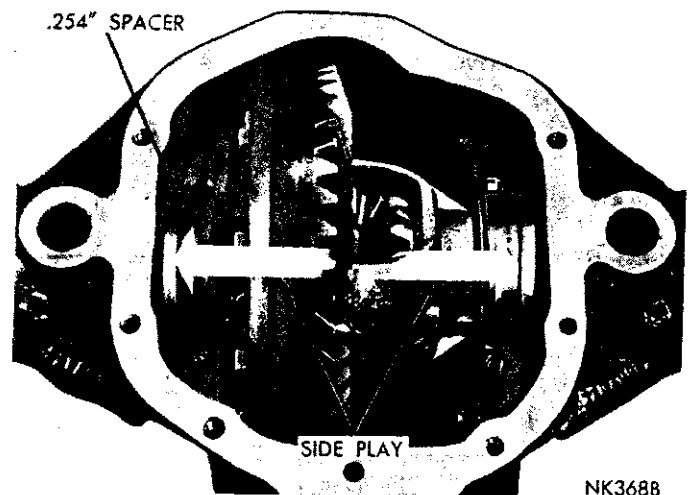
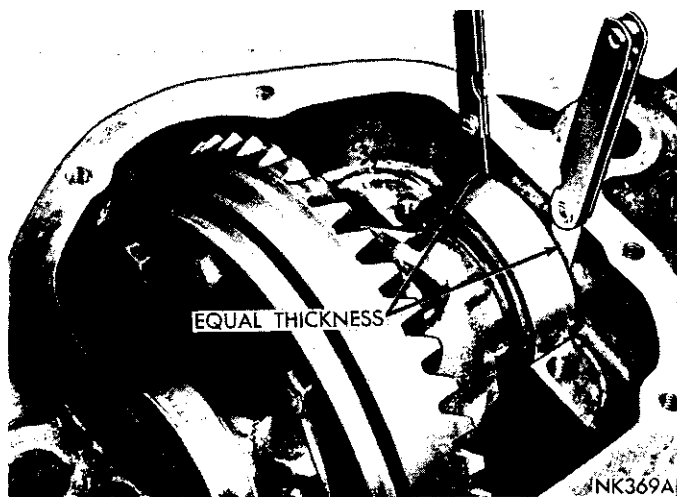
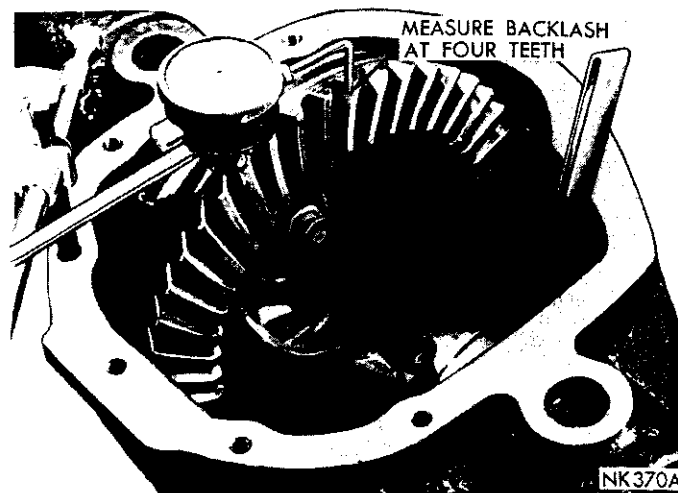

Fig. 22—Temporarily Install Thinnest Spacer
Fig. 23—Feeler Gauges Measuring Thickness
Fig. 24—Determining Minimum Backlash
(1) With drive pinion and bearings installed and bearing preload set, install differential case and ring gear assembly, and cups. Insert a .254 inch preload adjusting spacer on ring gear side (Fig. 22) of axle housing. Do not install bearing caps.
(2) Install a preload spacer on right side of housing that will fit snugly but still leave a slight amount of end play.
(3) To measure, move differential to the left side or ring gear side of rear axle housing. Using two sets of feeler gauges, insert feeler gauges between the spacer and the right side of the axle housing above the center line of the case (Fig. 23). Insert the same thickness of feeler gauges between the spacer and the axle housing below center line of case. Increase thickness of gauges until heavy drag is felt.
(4) Rotate differential and ring gear assembly several times in both directions to seat bearings and cups and re-check feeler gauge drag.
(5) Install a spacer totaling the combined thickness of spacer and feeler gauge. This will provide zero end play.
(6) Measure drive gear backlash at 4 positions at approximately 90 degrees intervals (Fig. 24). Refer to "Differential Preload Spacer Chart" for selection of proper spacers to provide .004" to .007" backlash.
(7) Remove differential case and ring gear assembly from axle housing.
(8) With proper spacers selected for left and right sides of assembly as specified by "Differential Preload Spacer Chart", attach spreader Tool C-3721 with tool dowel pins seated in locating holes of axle housing. Tighten tool screw only finger tight at this time.